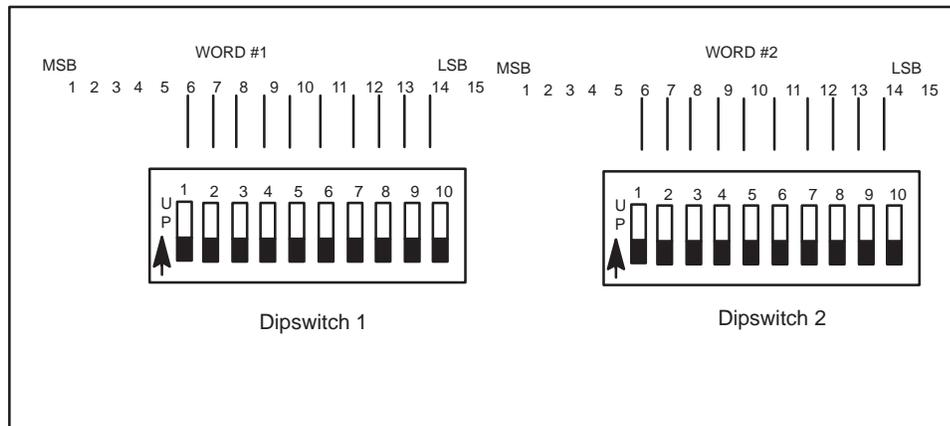

Figure 5–8 Dipswitch Values Bit Map
**dddd** The current values for Dipswitch 1 and Dipswitch 2 in the most significant word and least significant word respectively. The position values are right-justified in each word as shown in Figure 5–8. A bit set to one indicates the corresponding switch is up (off).